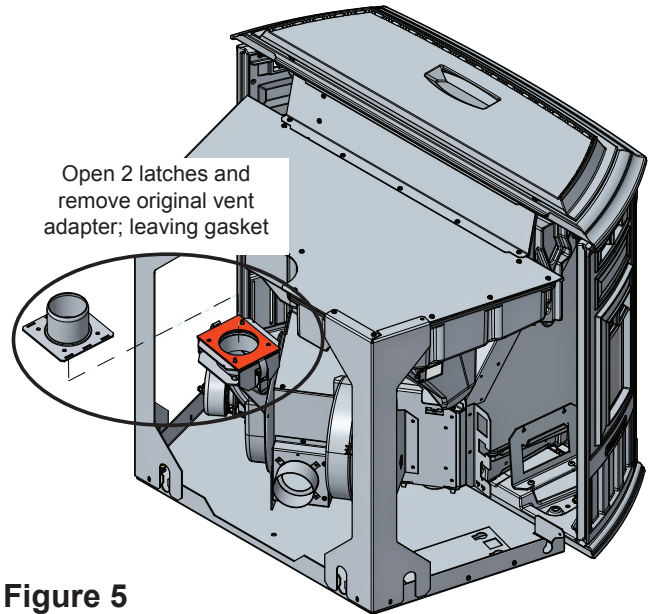

Figure 5
3. Open the 2 latches that hold the original vent connector to the blower outlet. Remove and discard the original vent connector (Figure 5).